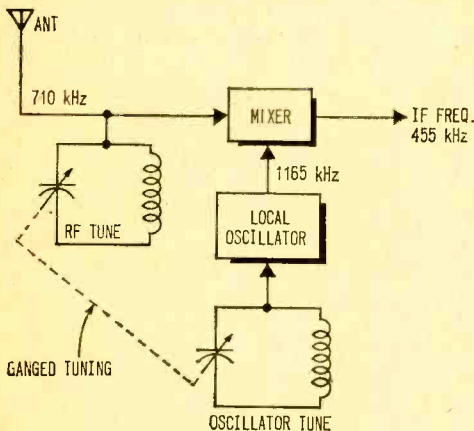

Fig. 6. Here’s the block diagram for the front end of a superhet receiver. Dotted line for ganged tuning means both variables are on the same shaft.
**Enter RF.** To start the process, examine the front end of the superhet shown in Fig. 6. We’ll assume the radio is tuned to a broadcast station in the lower end of the band, at 710 kHz. In a typical table radio, the incoming RF signal is tuned by a variable capacitor and loopstick (or some other type of antenna coil). The signal is applied to the Mixer stage where the heterodyning process takes place. (Some people call this stage the
It’s akin to two runners trying to maintain a given separation. If the leader speeds up, the follower adjusts his pace to keep a constant distance. In a receiver, the local oscillator tracks the air signal to maintain a 455-kHz span. You can recognize these multiple, or ganged-tuned, circuits in a schematic diagram by the dotted line between circuits, as shown in Fig. 6. As the larger section selects stations from 550 to 1700 kHz, the other section produces oscillator signals from 1005 to 2155 kHz—always